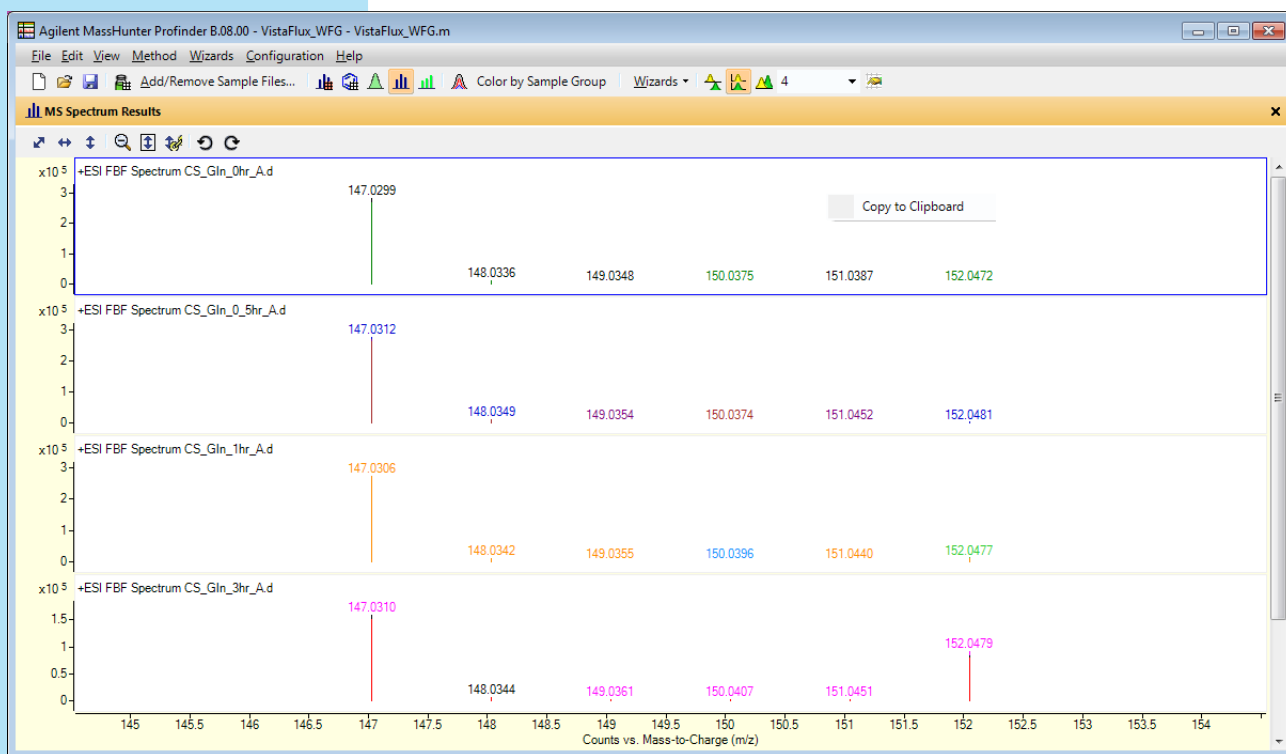

Figure 56 MS Spectrum Results window and shortcut menu
MS Spectrum Results (Figure 56) presents the averaged mass spectrum (MS) across the integrated ECC for the feature selected in the Compound Groups window for each data file. For isotopologue extraction results the mass spectra are presented across the isotopologue extraction region.
Sample group mode (Figure 56) displays the isotopologue results for each sample group. Each sample replicate is displayed within each group chart in an alternating cycle of ten colors, matched with the Chromatogram Results and MS Spectrum Results. The coloring can be changed to represent the sample groups by selecting **Color by Sample Group** from the toolbar.